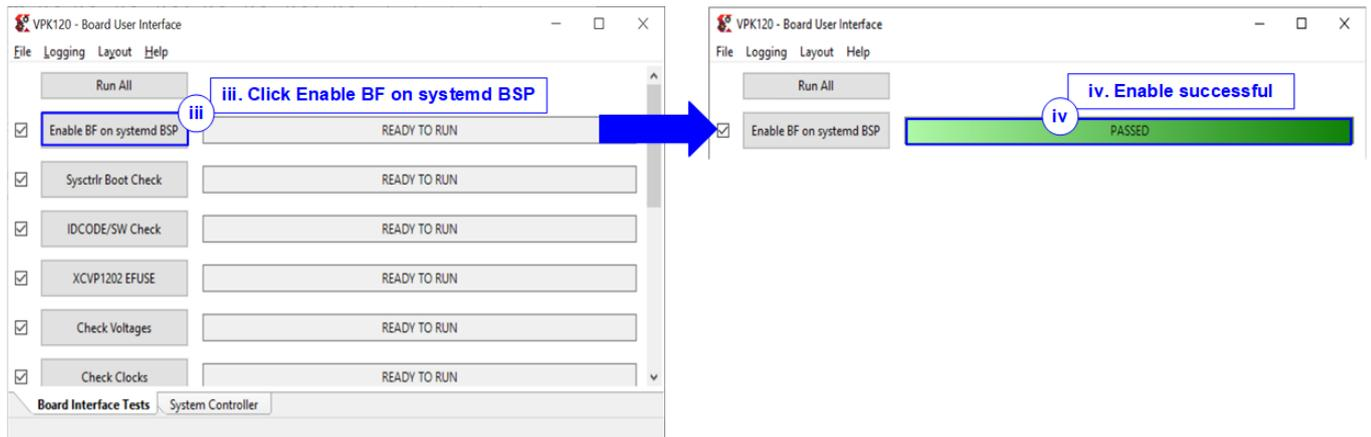

Figure 8 Enable Board Framework on VPK120
- iii) Open the “VPK120 – Board User Interface” application and click “Enable BF on systemd BSP”, as shown in Figure 8.